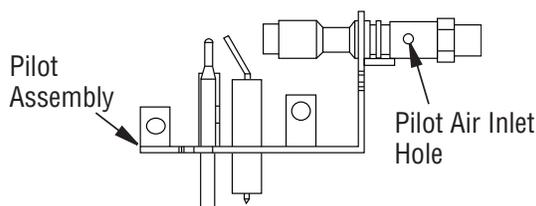

Figure 57 - Pilot Inlet Air Hole (Your pilot may vary from pilot shown)
2. Inspect burner, pilot and primary air inlet holes on injector holder for dust and dirt (*see Figure 57*).
Clean pilot assembly also. Additional cleaning may be needed for proper pilot operation based on use/lack of use. A yellow tip on the pilot flame may indicate dust and dirt in the pilot assembly. There is a small pilot air inlet hole about from where the pilot flame comes out of pilot assembly (*see Figure 57*). With unit off, lightly blow air through air inlet hole. You may blow through a drinking straw if compressed air is not available.